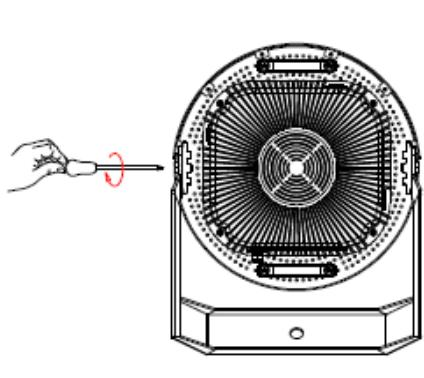
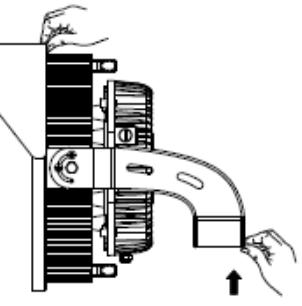

FIG.19
FIG.22
3) Adjust bracket angle, loosen the bracket screws with cross screwdriver and internal hexagonal wrench, adjust needed angle and re-tighten the screws. (See FIG.19 to FIG.22)